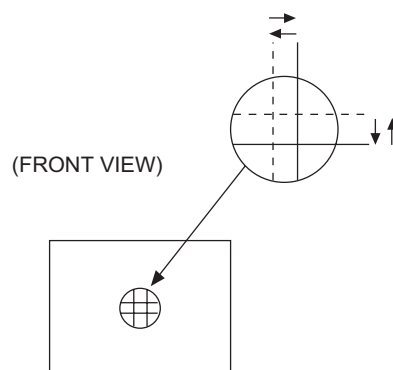

Fig. 4
- (1) Input a crosshatch signal.
- (2) Using 4-pole convergence magnets, overlap the red and blue lines in the centre of the screen (Fig. 4) and turn them to magenta (red/blue).
- (3) Using 6-pole convergence magnets, overlap the magenta (red/blue) and green lines in the centre of the screen and turn them to white.
- (4) Repeat (2) and (3) above, and make the best convergence.